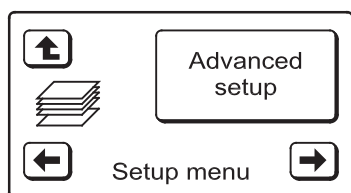

FIG. 63
2. Press the LEFT (←) button twice to display the screen shown in Figure 63.